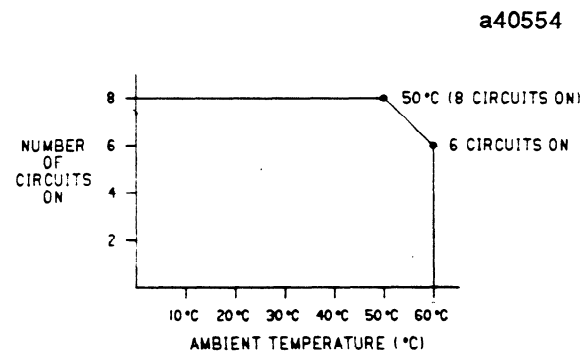

Figure 6-30. I/O Points vs Temperature Chart
*Maximum load current is dependent on ambient temperature as shown in figure 6.30.